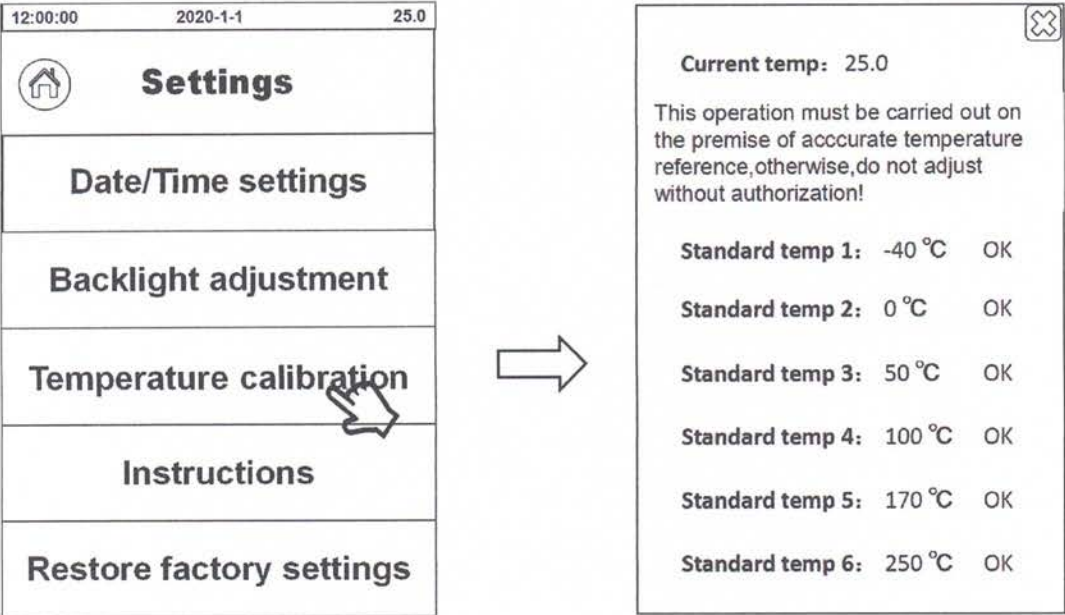

Fig. 30
3) Temperature calibration: This function allows the user to self-calibrate the temperature value measured by the temperature sensor. (Fig.30).